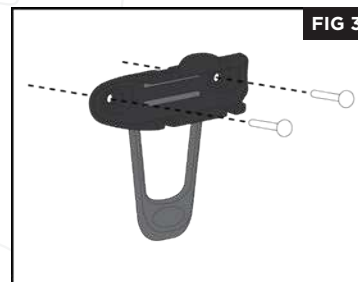

FIG 3
- **Install Paddle Clip:** Locate the clip and rubber strap in the tackle box and/or battery box and assemble (fig 3).